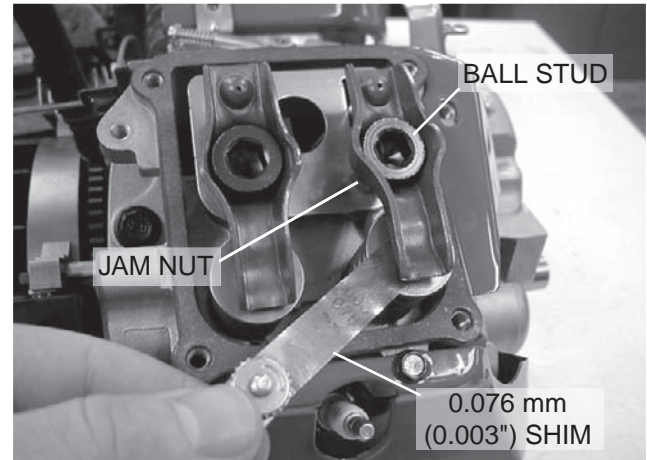

Figure 152.
1. Remove the four (4) screws from the rocker cover.
3. Loosen the rocker arm jam nut. Use a 10mm allen wrench to turn the pivot ball stud and check the clearance between the rocker arm and the valve stem with a flat feeler gauge (see Figure 152).